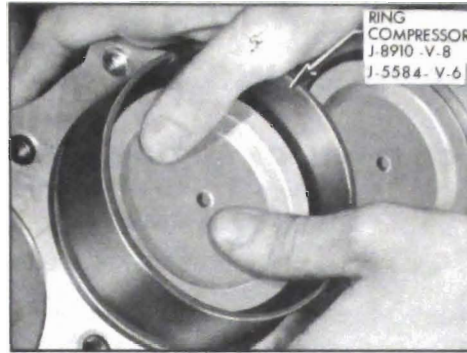

Figure 2-54—Installing Piston with Ring Compressor
The pistons are cam ground, which means that the diameter at a right angle to the piston pin is greater than the diameter parallel to the piston pin. When a piston is checked for size, it must be measured with micrometers applied to the skirt at points 90° to the piston pin. See Figure 2-54. The piston should be measured (for fitting purposes) 1/4 below the bottom of the oil ring groove.
15. Lubricate the piston and rings and install in bore by compressing the rings either with a "wrap around" compressor or a split ring type such as shown in Figure 2-54.